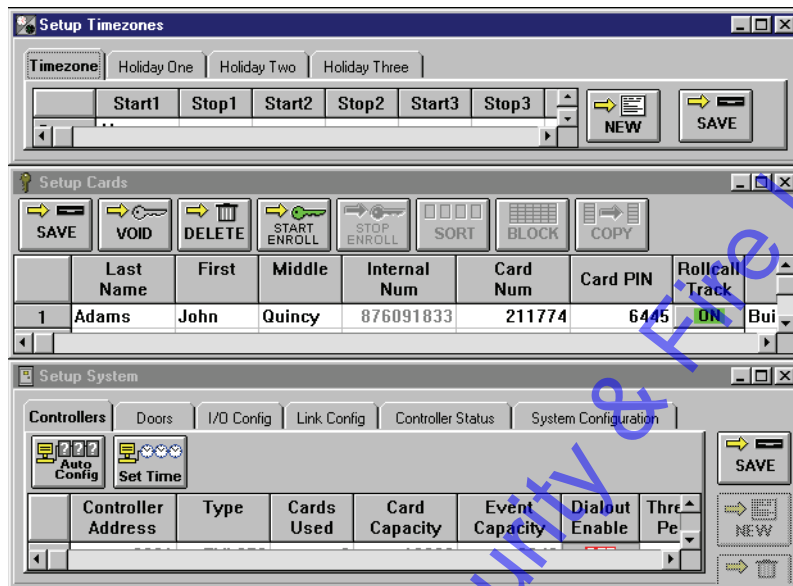

Figure 1-19: Horizontally Tiled Database Windows
1. To horizontally tile all open windows, click on the Window ⇒ Tile Horizontally pull-down menu option. The individual database windows will be organized in the *Doors* window as shown in Figure 1-19.